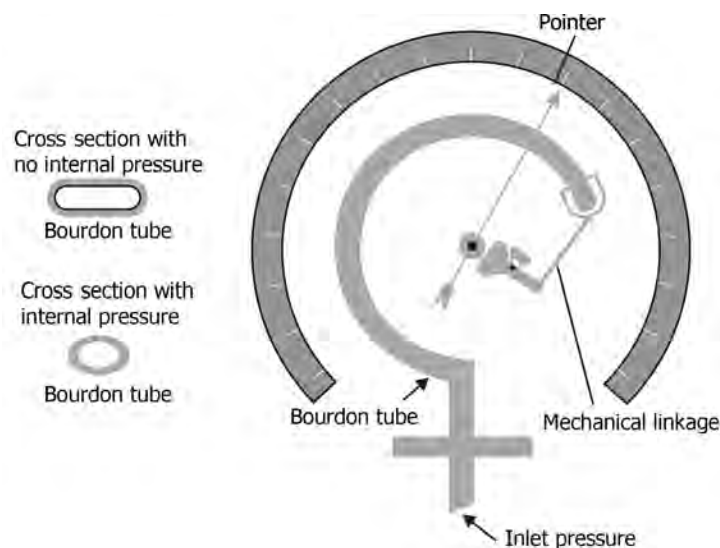

FIGURE 1.12 Bourdon tube pressure gauge.
- Figures 1.12 and 1.13 illustrate spiral and helical types of pressure gauges.